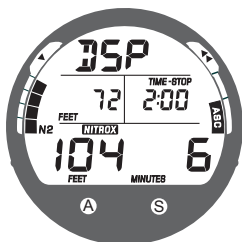

Fig. 58 - No Deco Deep Stop Preview
- To access the Preview screen, depress the A (Left) button for 2 seconds while viewing the No Deco Main screen. Information displayed includes (Fig. 58) -